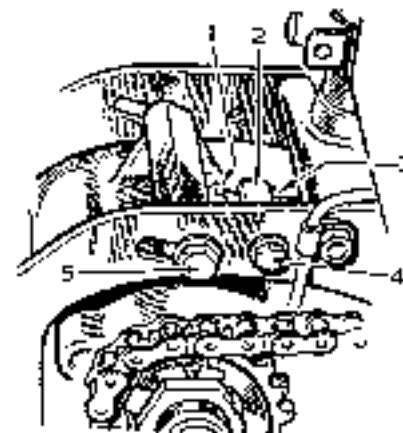

Fig. 15
The maximum free play measured from the centre of the chain run is $\frac{1}{4}$ in. Check the chain in several positions as it may have stretched unevenly. The method of adjusting the front chain is shown in Fig. 15, with the exception that two adjusters are used on the G80CS model. To adjust the chain slacken the bolt (5) and release the adjusting-bolt locknuts (3).